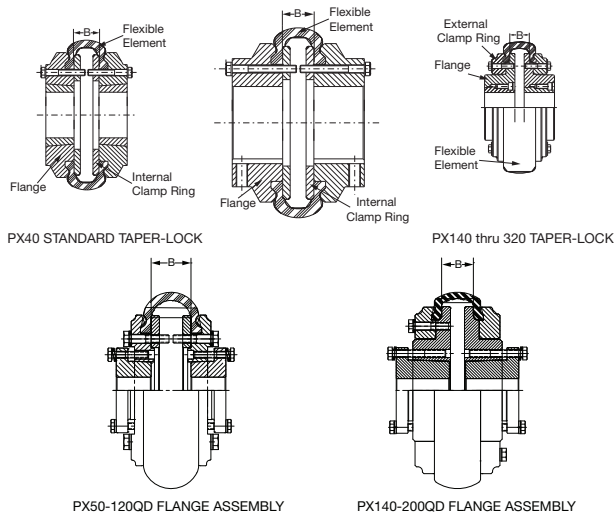

Figure 1 - Two-Piece Flange Styles
3. Referring to Figure 1 and Table 1, observe the "B" dimension for the coupling size being installed. Mount and position the flanges on the shafts so that dimension "B" is achieved when the shafts are in their final position.